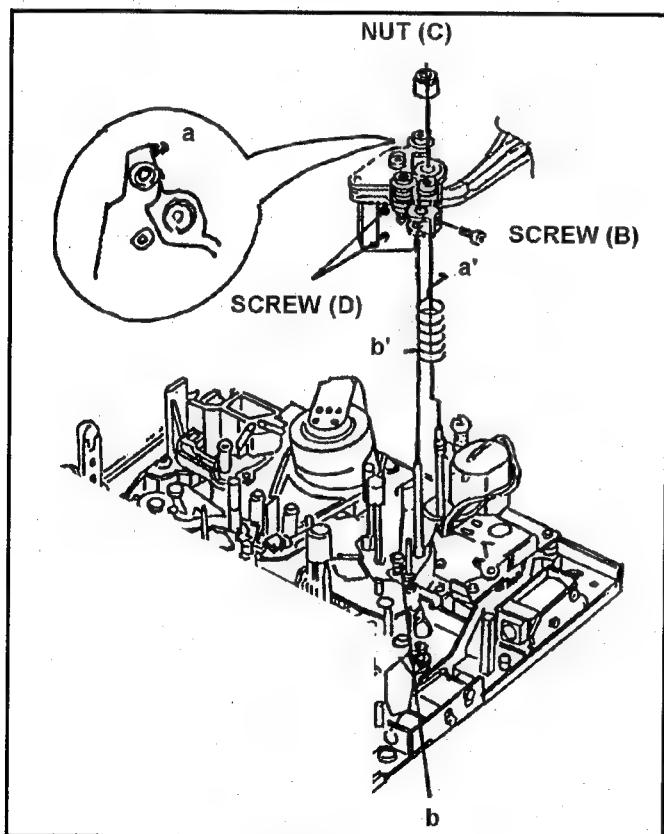

Fig. 10-2-3 Removal of A/C Head Unit
3. Loosen the **hex. screw (B)** and remove the **Nut (C)**. Pick up the Head Height Adjustment Spring and then remove the A/C Head Unit as shown in Figure 10-2-3.
**Point:** Memorize the height of Nut (C) before removing the **Nut (C)**,
5. Remove **2 screws (D)** to remove the Shield Cover as shown in Figure 10-2-3.